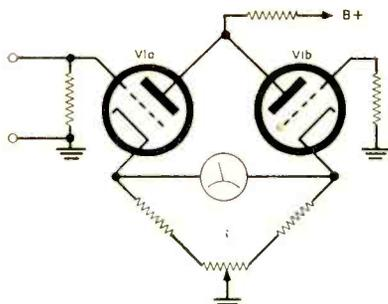

Fig. 3. The circuit of Fig. 2 (B) redrawn in the standard bridge configuration.
If you're wondering why the VTVM circuits is referred to as a "bridge," as you can see Fig. 2 (B) can be easily redrawn to the standard bridge configuration (Fig. 3) and may even be more easily understood that way.